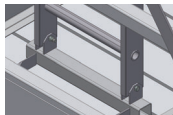

fig. 1.54
- 3- Insert the bottom of the ladder between the tabs and secure in place by inserting the bolt assemblies through the tabs and through the holes at the bottom of the ladder (fig. 1.53 and fig. 1.54).